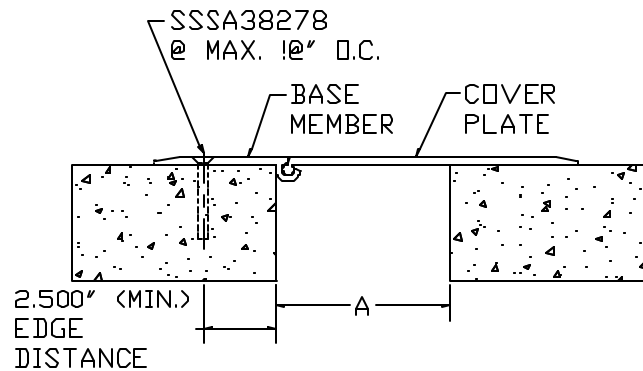

Figure 3
STEP 4. Using the anchors provided by the factory, attach the joint cover system to the concrete (Figure 3).